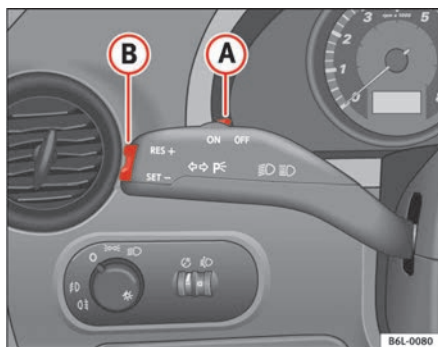

Fig. 104 Turn signal and main beam headlight lever switch and rocker switch for the cruise control
- Press the upper part **RES** of the rocker switch ⇒ fig. 104 **B** to increase the speed. The vehicle will continue to accelerate for as long as you keep the rocker switch pressed. When you release the switch, the new speed is stored.
Control of the set speed is switched off if you reduce speed by depressing the brake pedal. Reactivate the control by pressing once on the upper part of the rocker switch **RES+** ⇒ fig. 104 **B**.